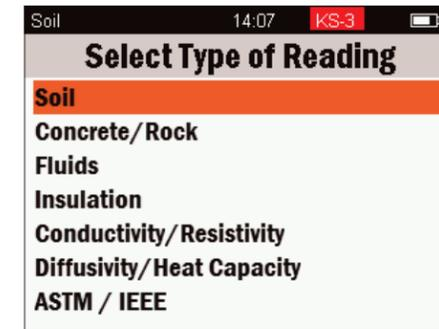

Figure 20 Select Type of Reading menu
The Select Type of Reading screen (Figure 20) will open. Within this menu, specialized configurations for specific materials and applications can be chosen (Table 3). Additional custom-configuration options for readings are also available.
- Navigate to the desired type of reading from the Select Type of Reading menu (Figure 20).